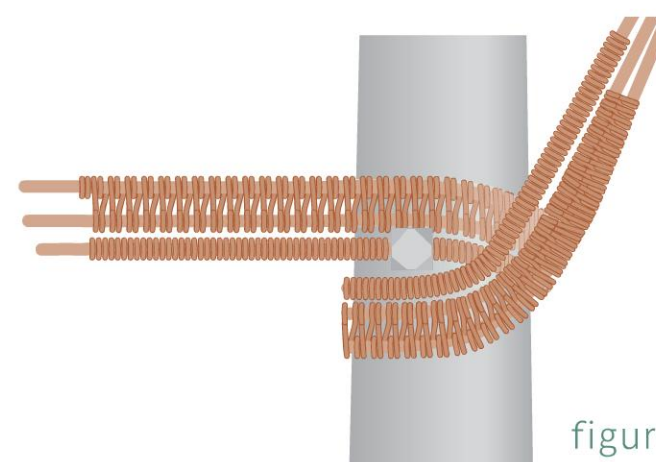

figure 7
- 24 Guide the woven section so it sits next to the coiled wire placed in the previous step (Figure 7).